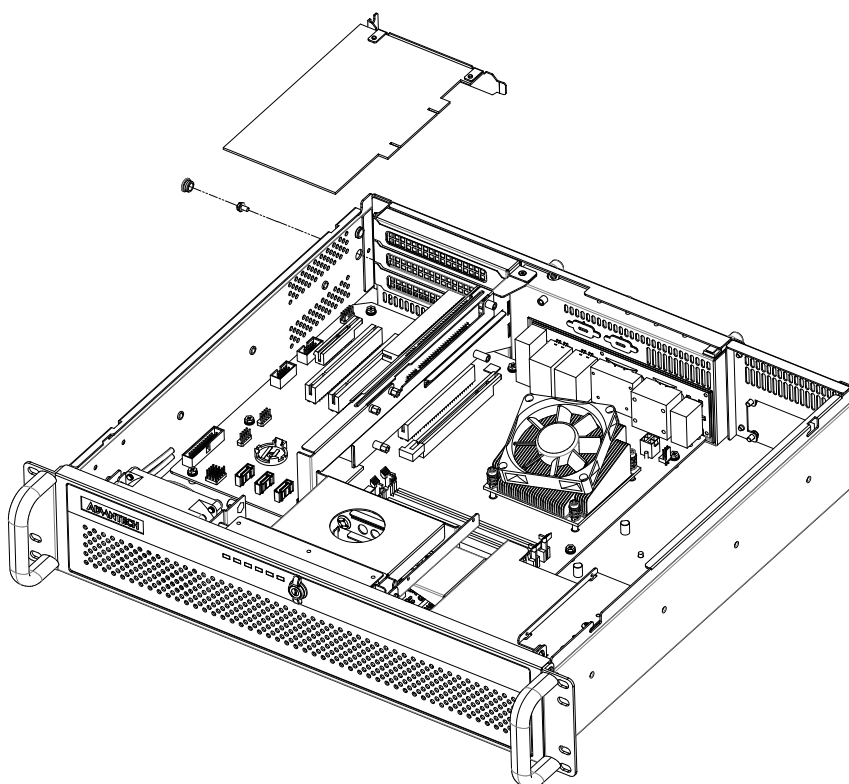

Figure 2.5 Installing add-on cards/ 安装附加卡 / 安裝附加卡
2. Remove the corresponding I/O bracket attached to the rear plate of the chassis. Insert an add-on card vertically into the proper slot on the riser card. For full-length cards, please make sure that the card bracket has been inserted properly and the other edge of the card has been inserted into the plastic guiding fillister. Then fasten the screws on the top of the I/O bracket. (see Figure 2.5)
2. 移除固定在机箱后面板的相应 I/O 支架。将附加卡垂直插入转接卡的相应插槽内。对于全长卡，请确认卡的另一端已插入塑胶导引槽。然后用螺丝将卡固定在 I/O 支架上（如图 2.5 所示）。